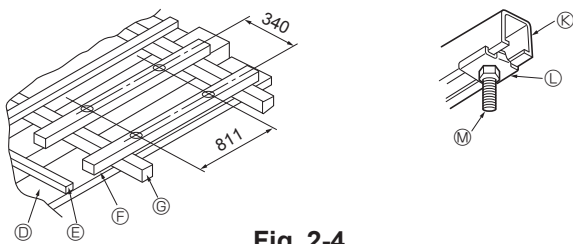

Fig. 2-4
① Wooden structures (Fig. 2-4)